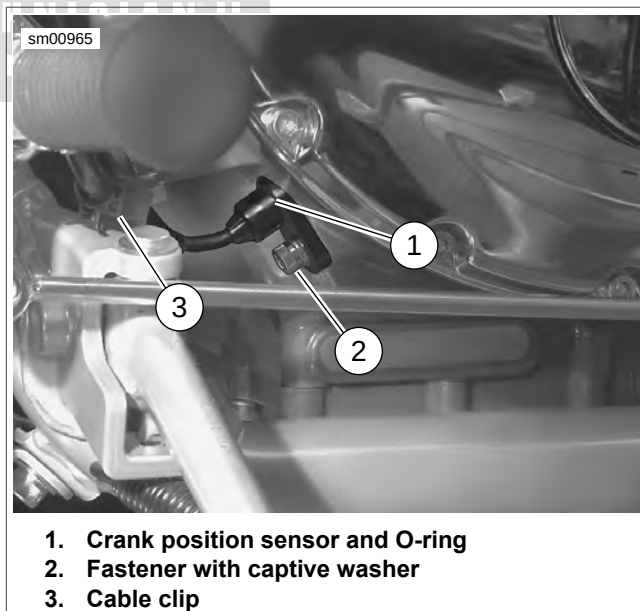

Figure 7-28. Crank Position Sensor Mounting (typical)
5. See Figure 7-28. Unlatch cable clip (3) on top of jiffy stand bracket and remove CKP sensor cable harness.
6. Remove fastener and captive washer (2). Carefully remove CKP sensor and O-ring (1) from engine crankcase.
1. See Figure 7-28. Install **new** CKP sensor and O-ring (1) with fastener and captive washer (2). Tighten to 8.2-10.7 Nm (73-95 in-lbs).
2. Route CKP sensor wiring harness through cable clip (3) on top of jiffy stand bracket. Latch cable clip.